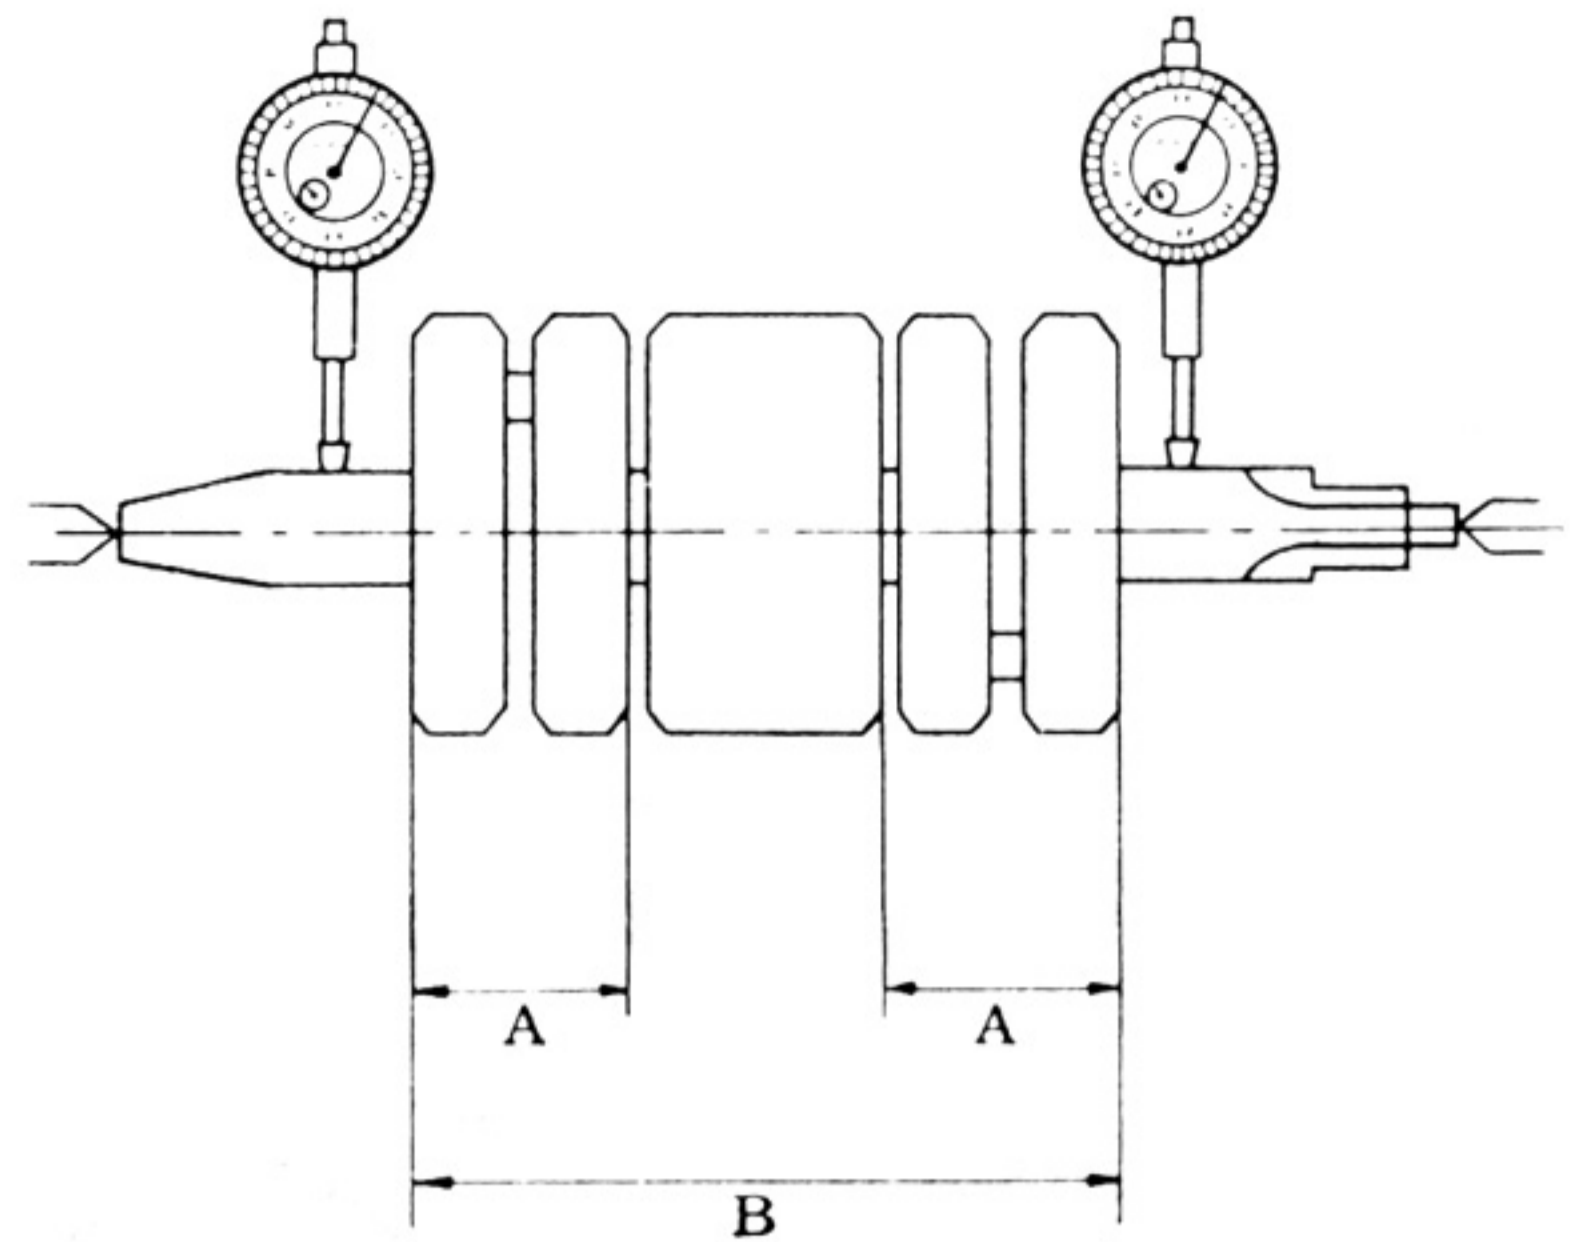

Fig. 3-16-24
c. Overall Length and Runout of the Crankshaft (Fig. 3-16-24)